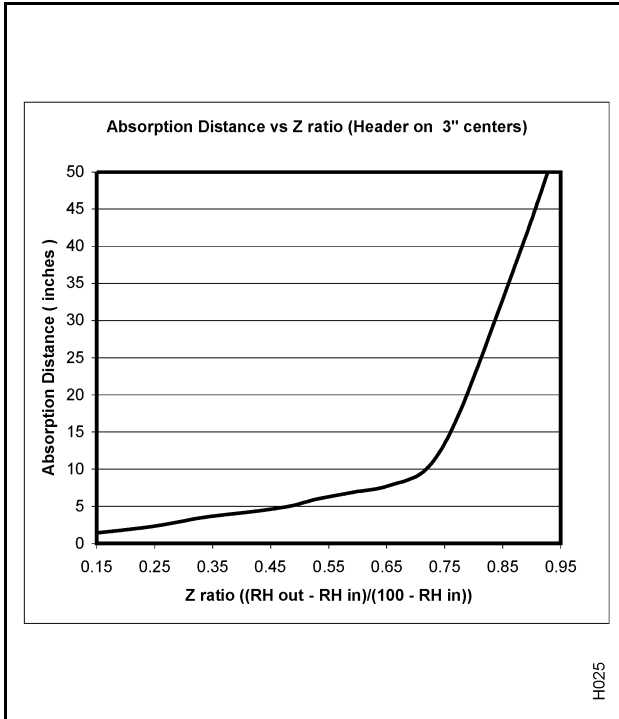

Figure 19. Absorption Distance – 3" Centers
(6) Absorption Distances:
(7) Reference Figures 19, 20, 21 and 22 to determine the center-to-center spacing required.